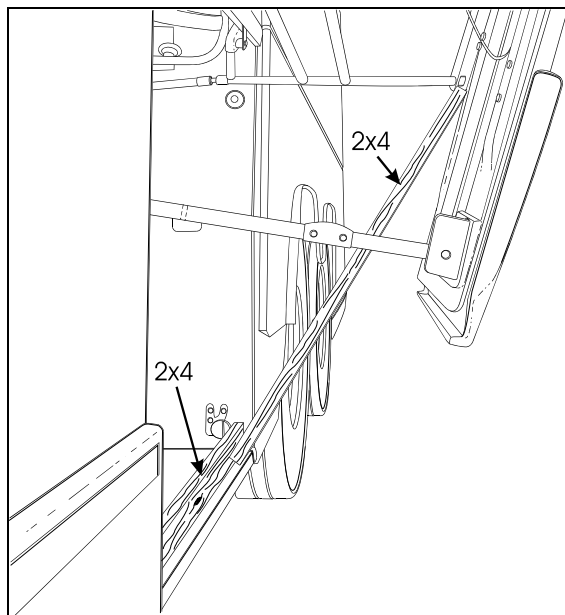

FIGURE 43: PANTOGRAPH ADJUSTMENT 18319
3. Install another piece of 2x4 between the first piece and the bottom of the pivot of the lowest (or shortest) pantograph arm, (Fig. 43).